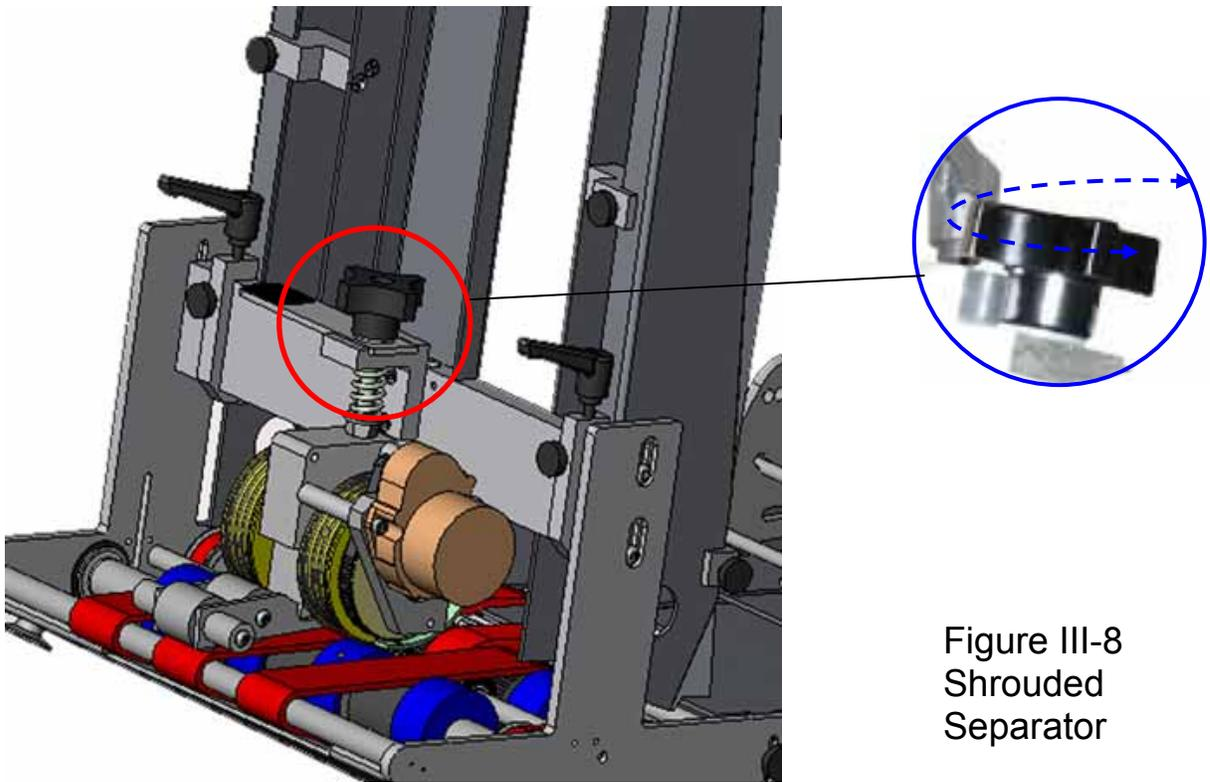

Figure III-8
Set the height of the “Separator Wheel” to allow the thickness of one (1) piece of material to pass under it. To do this, turn the adjustment knob clock wise to raise the wheel, counter clock wise to lower the wheel, see figure III-8. Note: There should be a little resistance felt by hand, when the material is directly under the separator wheels, when this is properly set. (**Tip:** The thinner the material is, the more critical this setting is).